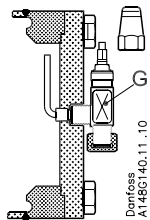

Fig. 4
Incondensable gases might accumulate in the upper part of the float valve. Purge these gases by means of the purge valve pos. G (fig. 4).
- 1) **NB!** Before opening up the float valve, the system must be evacuated and the pressure equalized to atmospheric pressure by using the purge valve pos. G (fig. 4)